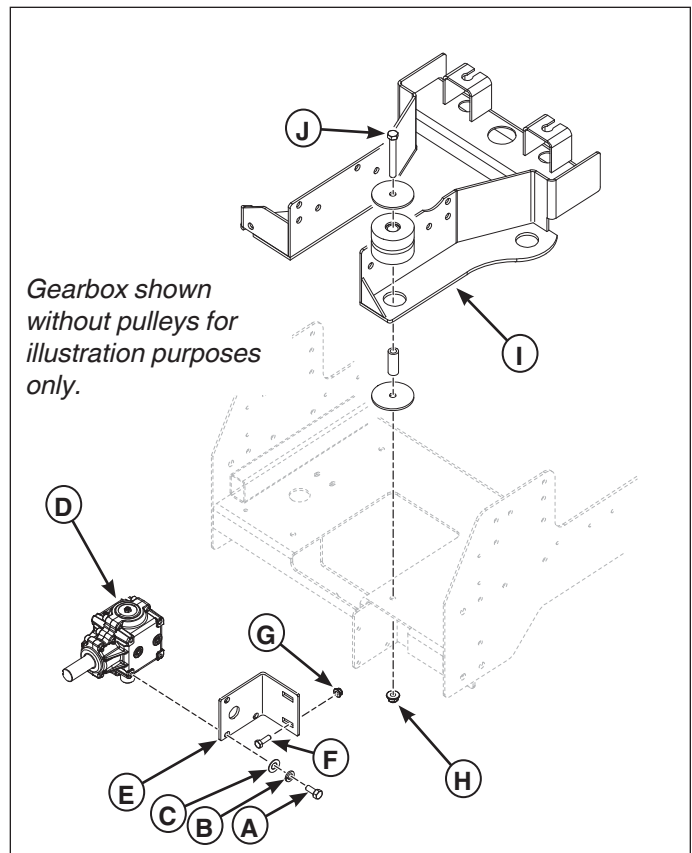

Figure 6. Removing the Gearbox & Bracket
1. Remove the eight (8) 5/16-18 X 1" bolts (**A**, **Figure 6**), 5/16 lock washers (**B**) and 5/16 flat washers (**C**) that secure the gearbox (**D**) to the gearbox bracket (**E**).
3. Remove the two (2) 3/8 X 1" carriage bolts (**F**) and 3/8 nylon flange nuts (**G**) that secure the gearbox bracket to the frame.
7. Press the 3/8-16 X 3" bolt (**J, Figure 6**) down through the ISO mount and the frame. Secure using a new 3/8 nylon flange nut (**H**).